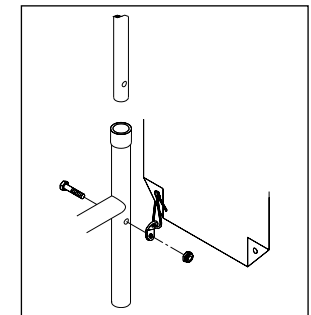

Figure 7
**E. BACKREST****1. Height Adjustment (Fig. 7)**